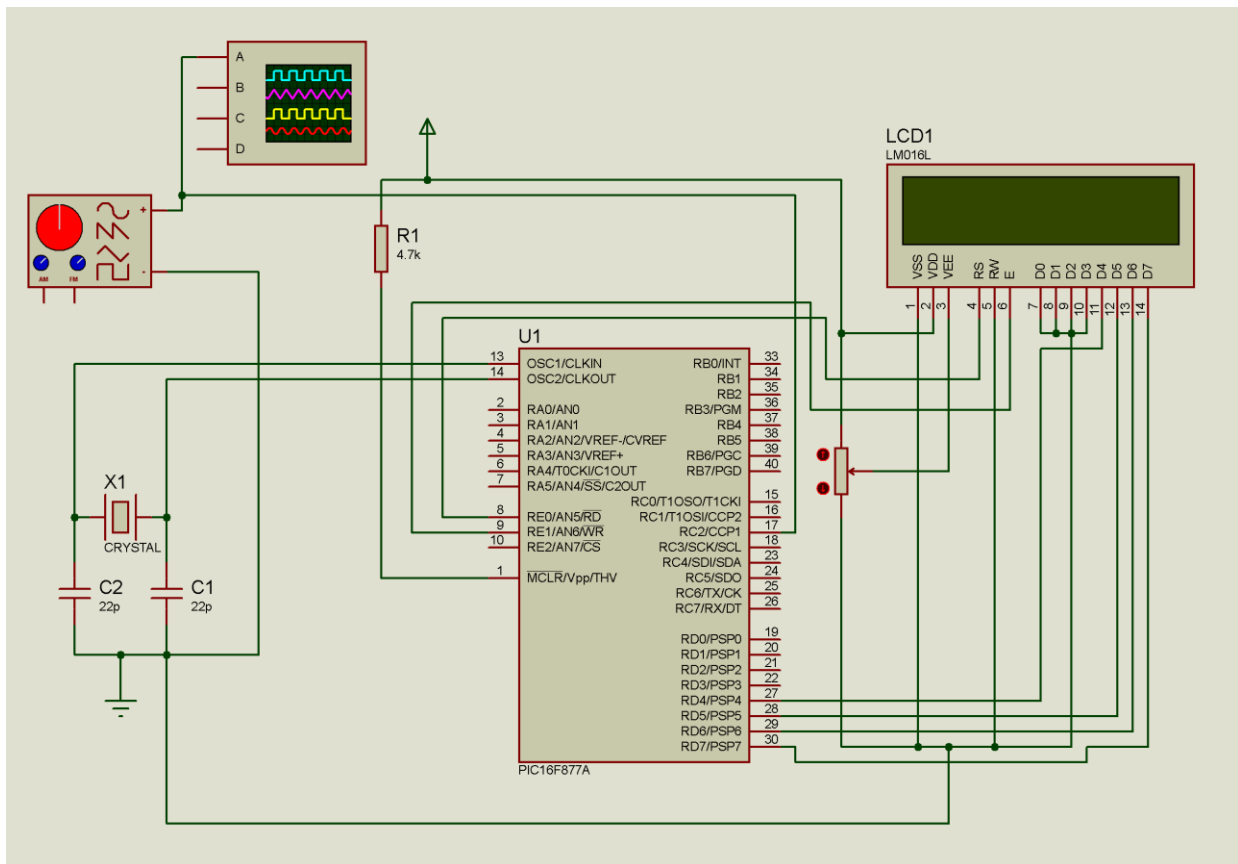

Figure 8: Capture mode connections
8. Implement circuit provided in Figure 8.